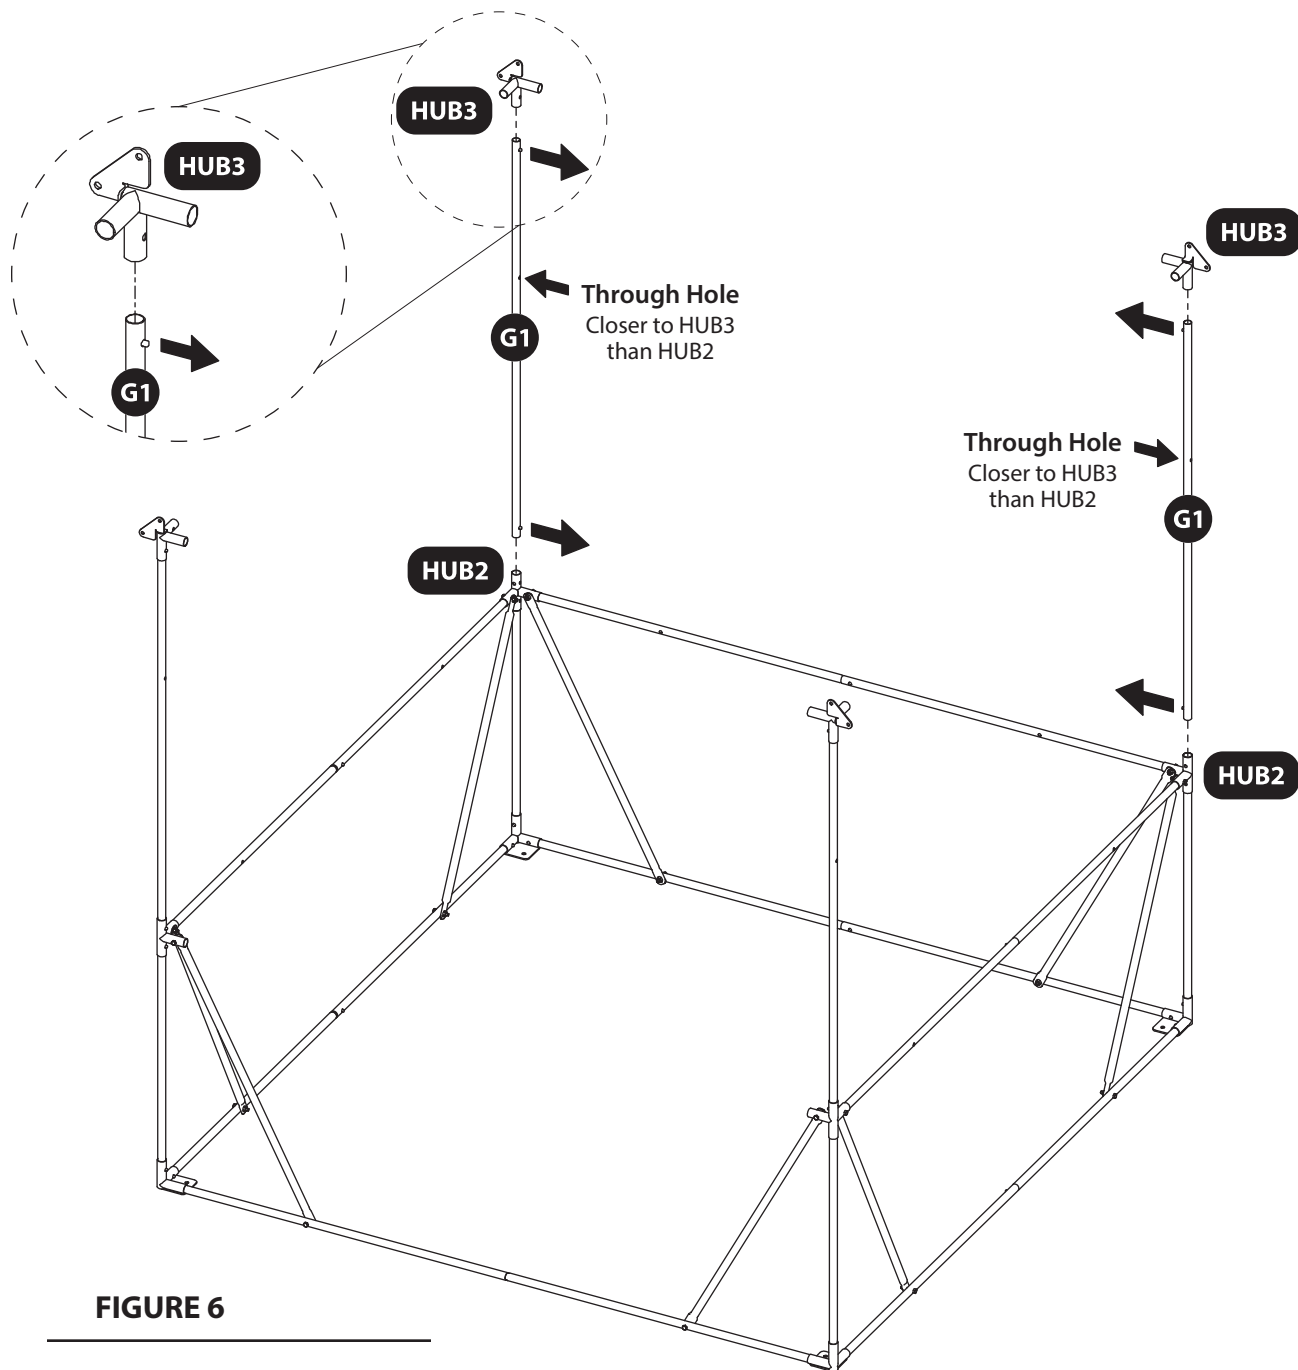

FIGURE 6
12. Slide remaining two G1 poles into the other HUB2 corners so that snap button secures pieces together. It is critical that the G1 poles are oriented such that snap buttons are facing each other and each through hole is located closer to the HUB3 corners than the HUB2 corners. **SEE FIGURE 6.**
13. Attach remaining two HUB3 corners to the two G1 poles so that snap buttons secure pieces together. *PAY ATTENTION TO ORIENTATION OF HUB 3!* **SEE FIGURE 6.**